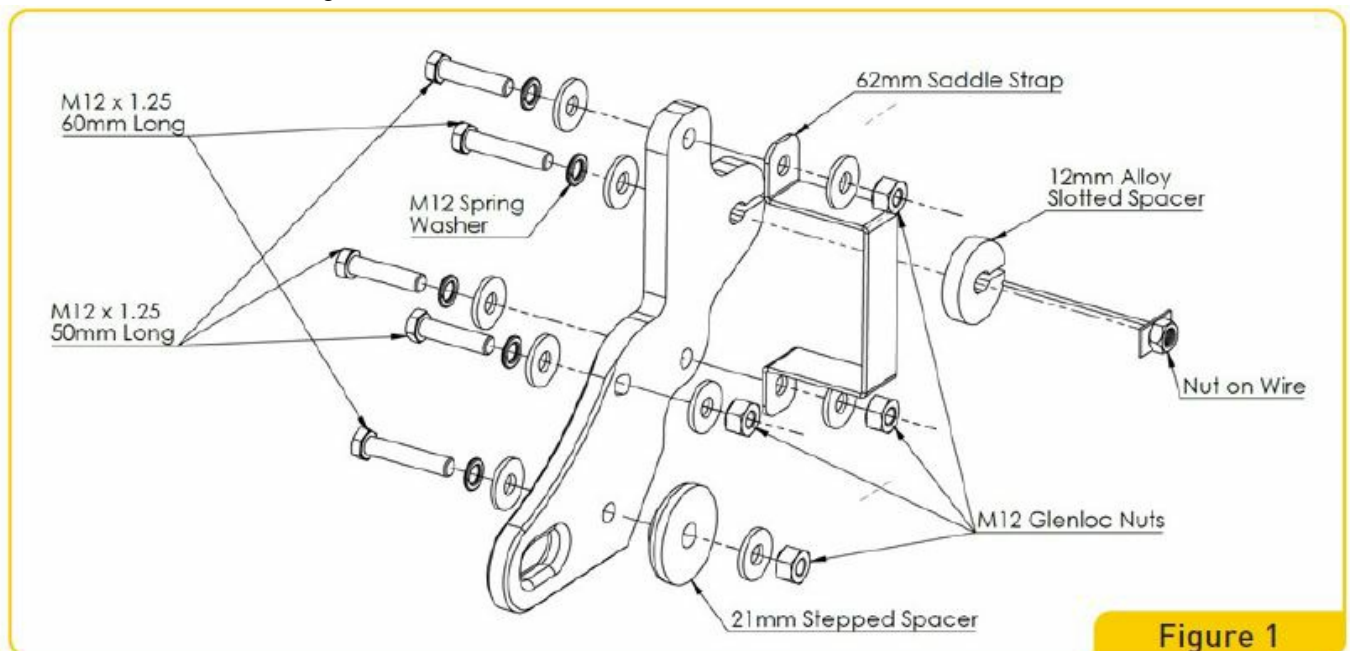

Figure 1
Fit hardware as shown in figure 1.
- Use the extra washers and spacers provided in addition to what is shown in Figure 1 and 2 to correctly space the recovery point to suit any additional bracketry on the chassis due to bull bar, nudge bar etc.